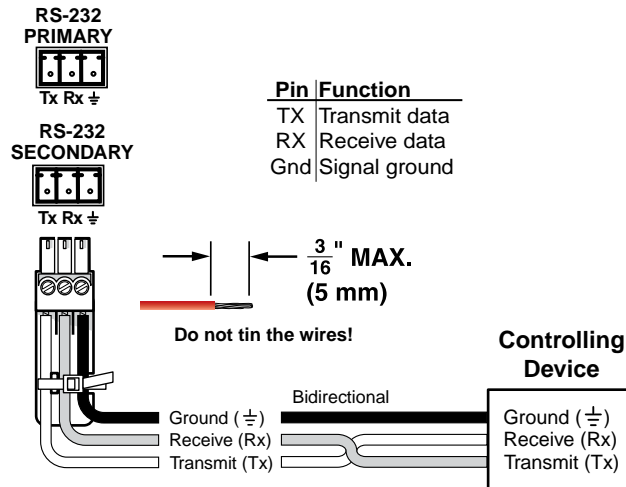

Figure 2-7 — RS-232 connector
- ⑫ **RS-232 connectors** — Connect one or two host devices, such as computers, touch panel controls, or RS-232 capable PDAs to the switcher via these 3-pole captive screw connectors for serial RS-232 control (figure 2-7). Use the supplied tie-wrap to strap the serial cable to the extended tail of the connector.